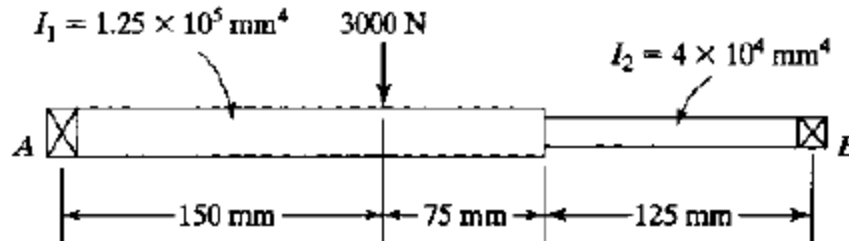

Fig. 6.
6. Find the deflection at the load and slopes at the supports for the steel shaft shown in the Fig. 6. Consider the shaft is simply supported at bearings A and B. $E = 200\text{GPa}$.